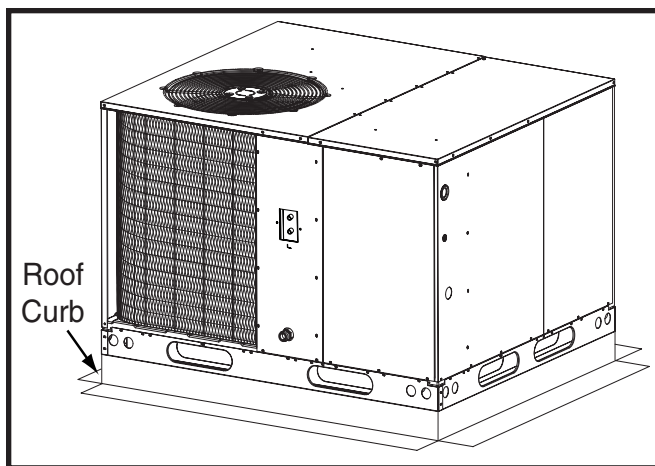

Figure 3. Roof Top Installation
- A suitable mounting pad must be provided and separate from the building foundation. The pad must be level to ensure proper condensate disposal and strong enough to support the unit's weight. The slab height must be a minimum of 2" (5cm) above grade and with adequate drainage. See Figure 3.